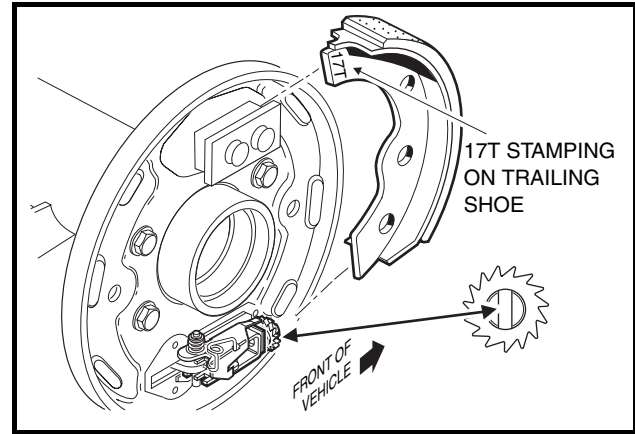

Figure 6-12 Install Adjuster Wheel, Trailing Shoe
1. Turn the adjusting wheel screw so that the shoe slot is vertical, then position the trailing shoe in the slots in the shoe mounting block and adjuster assembly (Figure 6-12, Page 6-6). See following NOTE.
NOTE: The trailing shoe has 17T stamped into the tip of the shoe flange (Figure 6-12, Page 6-6). The leading shoe is stamped 17L. When installing the shoes, the stamping on both shoes should be oriented to the top of the brake assembly. When installing the shoes on the passenger side of the vehicle, the side of the trailing shoe flange marked 17T should be facing out and be visible. On the driver side, the 17L on the leading shoe should be facing out and be visible.